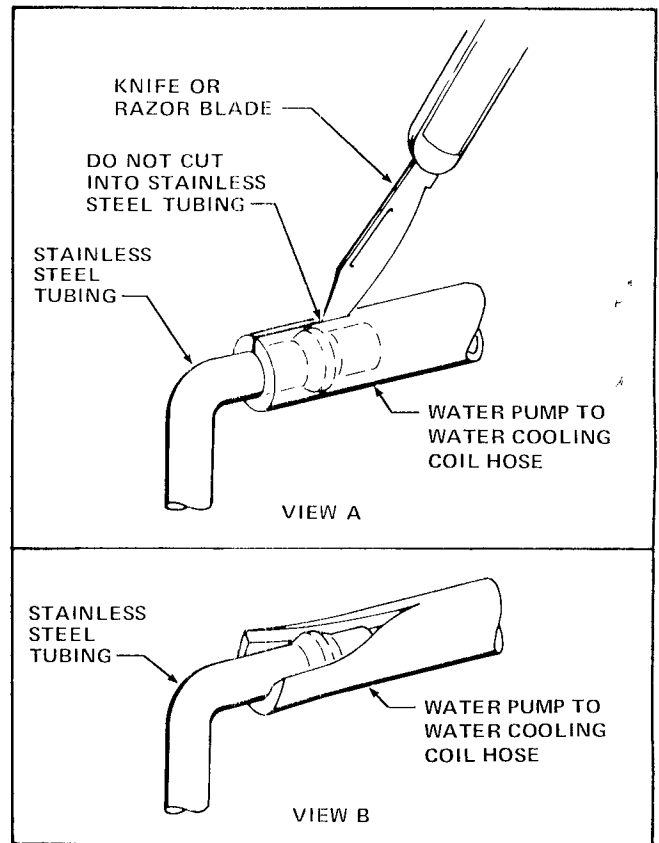

FIGURE 5
10. At the Water Cooling Coil, cut the Hose from the Water Pump lengthwise deep enough so that the Hose can be peeled from the Stainless Steel Tubing. See View A of Figure 5.
11. Peel the Water Pump to Water Cooling Coil Hose from the Stainless Steel Tubing. See View B of Figure 5.
10. At the Water Cooling Coil, cut the Hose from the Cool San Cleaning System Module lengthwise deep enough so that the Hose can be peeled from the Stainless Steel Tubing. See View A of Figure 5.
11. Peel the Cool-San[®] Cleaning System Module to Water Cooling Coil Hose from the Stainless Steel Tubing. See View B of Figure 5.